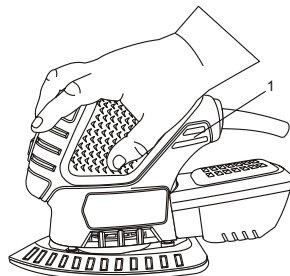

Fig. 8
NOTE: Hold the detail sander using the grip on top of the sander. Be careful NOT to cover the motor cooling vents (1) with your hand (Fig. 8). Motor damage may occur from overheating if the cooling vents are covered.